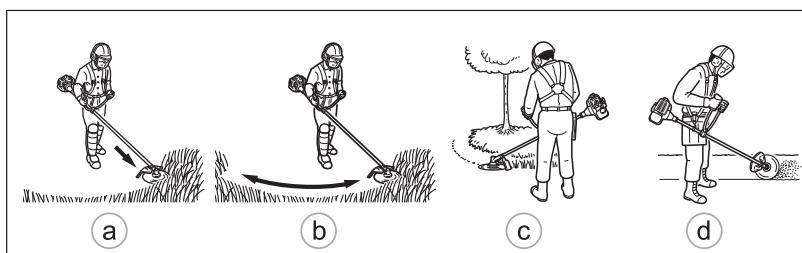
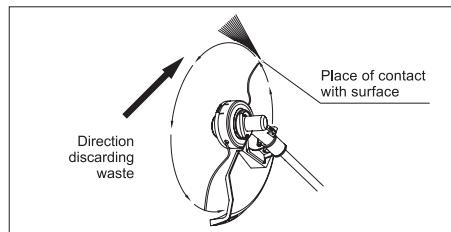

fig. 12
fig. 13
With this type of work, grass is selectively mowed in a small area by moving the trimmer in a straight line. Move the trimmer carefully to the place to be cut (fig. 12 a). Tilt the head (knife) a little to the side so that the waste does not fly in your direction. If you are close to the barrier (fence, tree, wall), approach it at an angle so that the waste does not ricochet in your direction. Be especially careful in the immediate vicinity of a wire or wire fence. Cut can be done by cutting the stems one by one. Place the trimmer reel (knife) so that the ends of the cord (knife) are close to the base of the weed (if you lift the cord higher, the stem will swing and wind onto the reel axis). Use a cutting device to remove the stems successively, if necessary.
Grass mowing in large areas occurs by moving the trimmer in an arc (Fig. 12 b). Move easily and smoothly, do not make sudden movements. Tilt the spool/knife in such a way that the discarded waste is directed away from you as the trimmer moves. Move trimmer in an arc parallel to the ground to mow grass, then return to original position without grass mowing. If you are well protected and not worried about the waste thrown in your direction, then you can mow in both directions.
Border processing is cutting grass when forming the borders of a lawn or in places where it has grown along a sidewalk or road (Fig. 12 d). In both cases, tilt the trimmer reel at a steep angle so as to prevent dirt and stones from falling into you. Choose the angles that suit your size and working situation. For most types of trimming, trimmer coil should be tilted so that the cord ends are in contact with the surface from the side where the coil moves away from you (Fig. 13). Throw-away waste will not fly in your direction.
1. Using a HEX key, remove the gear housing cover nut (turn key counterclockwise to remove) and remove the gear (fig. 13).